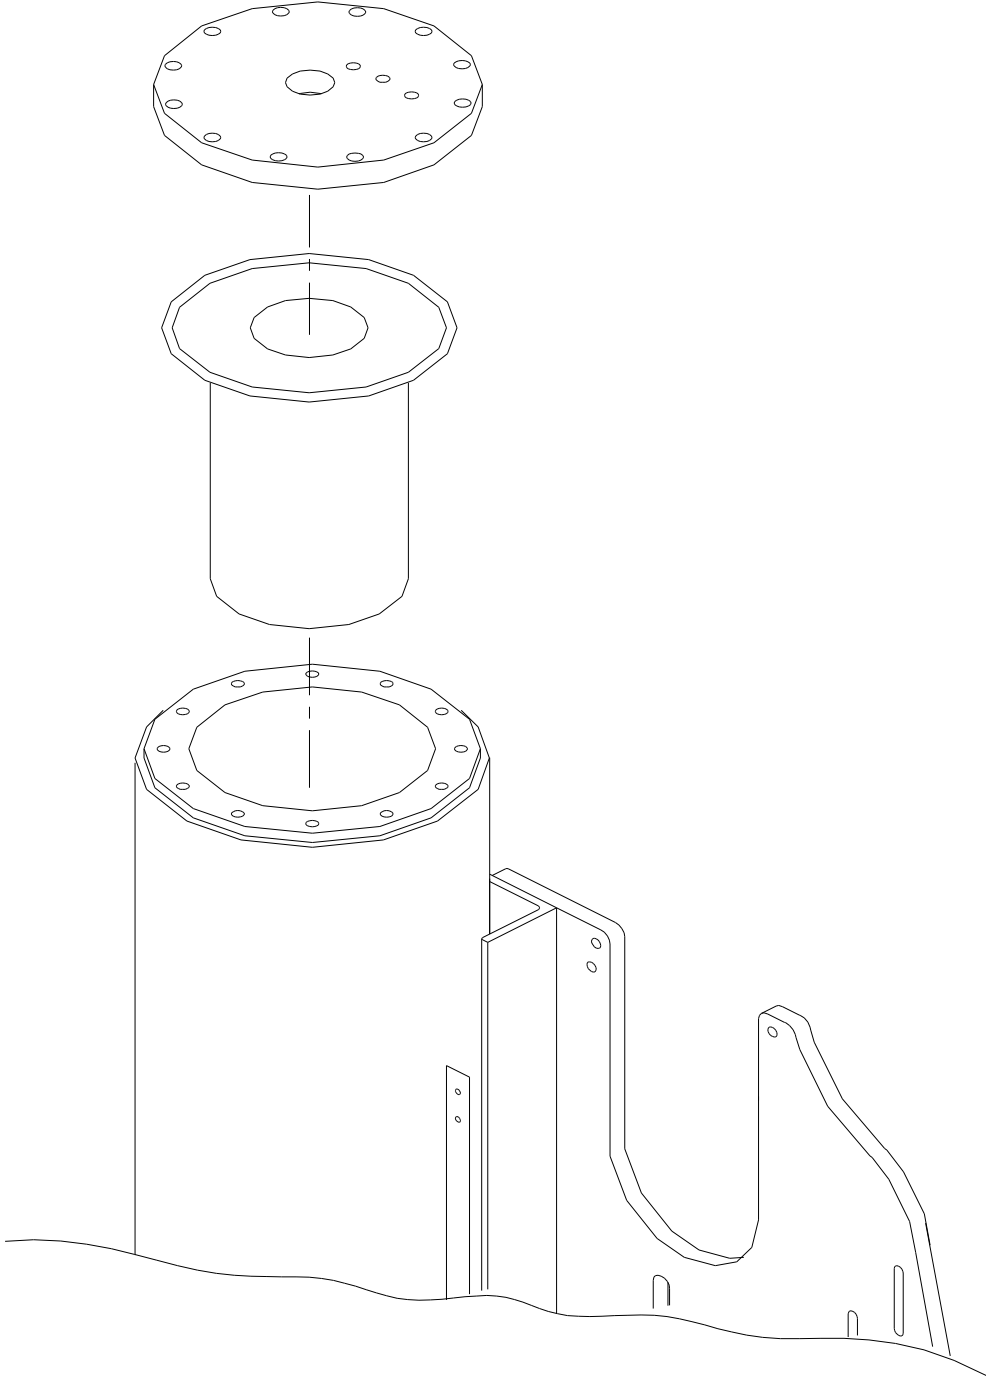

Figure 12 - Air / Oil Separator
The separator element should be replaced at least every 6000 hours of service, or when indicated by the electronic controller (Deluxe Monitoring and Full Monitoring options only). Separator elements may need to be replaced more frequently where dusty or hot conditions prevail. Use the following procedure when replacing the separator element (refer Figure 12 - Air / Oil Separator):
6. Lift the element clear (refer Figure 12 - Air / Oil Separator).